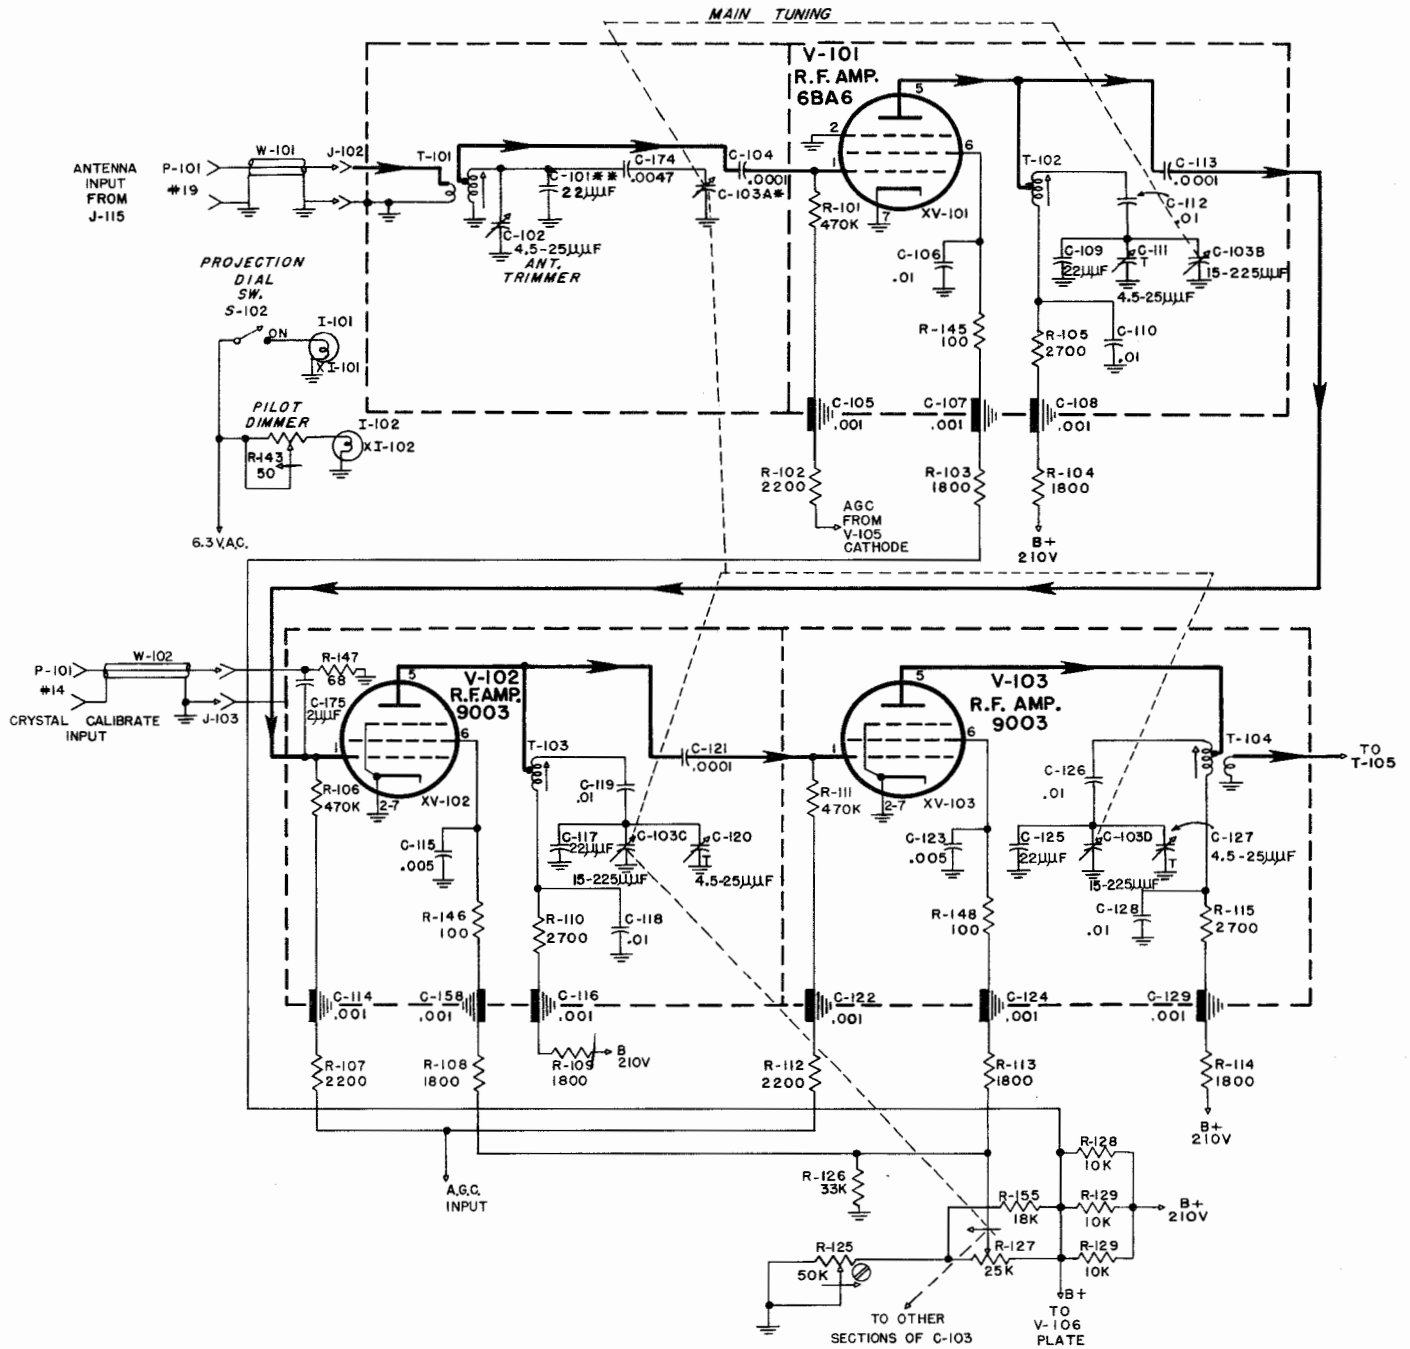

Figure 2-5. R.F. Amplifier Stages, Simplified Schematic Diagram
c. R.F. AMPLIFIER CIRCUIT DETAILS (AM-450/FRR-24, AM-451/FRR-24, AM-452/FRR-24, AM-453/FRR-24). (See Figure 2-5).—The antenna input signal connected to the antenna input connector J-115 is coupled across the primary winding of T-101; the 70-ohm in-